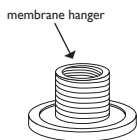
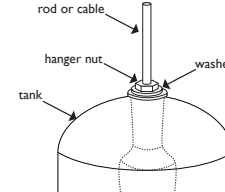

Fig. 4.1
Fig. 4.4
1. Remove the nut and the washer on the top of the tank which is attached to the membrane hanger that is anchoring the top of the membrane (fig. 4.1, fig. 4.4).
9. Slip the washer and then the hanger nut over the end of the rod/cable and tighten onto the exposed connector (fig. 4.4).